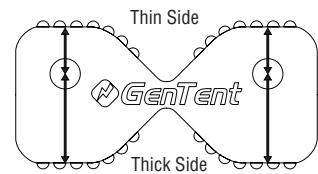
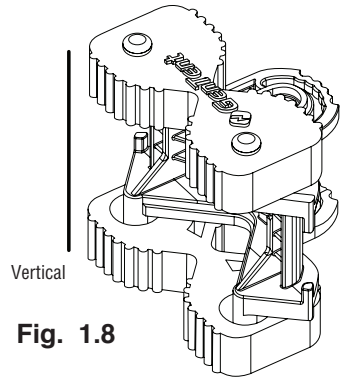
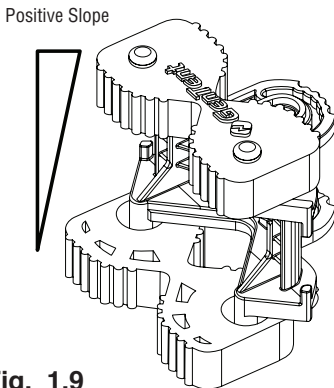
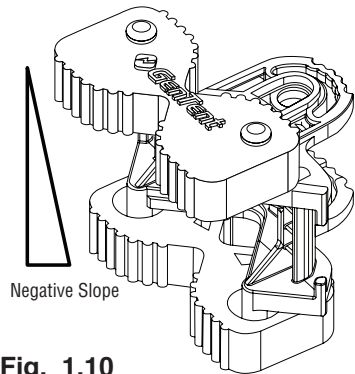

Fig. 1.4
Fig. 1.8
Fig. 1.9
Fig. 1.10
The Gator Grommets™ (Fig. 1.4) are pressed onto the pins of the Angle Brace to create a corner mounting assembly. The grommets allow the assembly to grip the generator case without marring the surface. Each Gator Grommet™ has two (2) thicknesses allowing for optimal fit on various case shapes.
The Gator Grommets™ are used to keep the Angle Braces as level as possible on the case and to give the mount assembly a tight grip against the case. Use the diagrams in Figures 1.8, 1.9 and 1.10 to see how to install the Gator Grommets™ based on your slope.
- e. If you have a case that is straight up and down (Vertical case); install both Gator Grommets™ so that the “thin” (Fig. 1.4) side will be facing the generator case. (Fig. 1.8)
- f. If you have a case that slopes in at the base (Positive Slope); install the top Gator Grommet™ with the “thin” (fig 1.4) side and the bottom Gator Grommet™ with “thick” (fig 1.4) side facing the case (Fig 1.9)
- g. If you have a case that slopes out at the base (Negative Slope); install the top Gator Grommet™ with the “thick” (Fig. 1.4) side and the bottom Gator Grommet™ with the “thin” (Fig. 1.4) side facing the case. (Fig. 1.10)